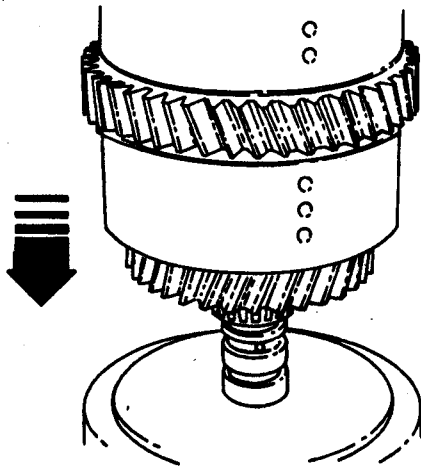

Figure 40.
2. Loosen the high clutch end bearing by tapping the assembly on a piece of aluminum as shown in Figure 40.
9. Knock the clutch shaft on a piece of aluminum (or wood) to remove the piston (See Figure 40). If the piston does not loosen when the clutch shaft is knocked on aluminum, then hand pump air down the shaft oil inlet hole.
10. Remove piston assembly (67). Remove and discard piston o-ring (68) and shaft o-rings (66). Make sure the piston liner (69) is secure. The liner must be a tight fit on the piston.